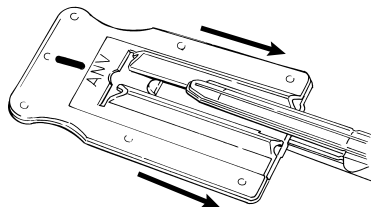

FIGURE 5
- 8a. Identify the anvil (ANV) and cartridge (CART) sides of the Peri-Strips Dry tissue assembly. Position the open stapler onto the tissue assembly (See figure 5).